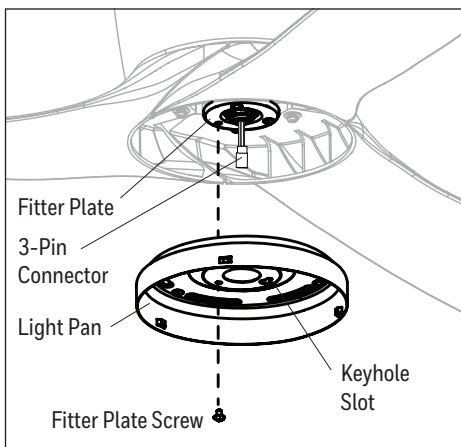

Figure 4.4
4. Remove one of the three fitter plate screws preassembled to the fitter plate and loosen the other two but do not remove. Feed the 3-pin connectors through the center hole in the light pan. Align the keyhole slots in the light pan with the loosened screws in the fitter plate. Turn light pan clockwise and replace the previously removed fitter plate screw. Tighten all screws (Figure 4.4).